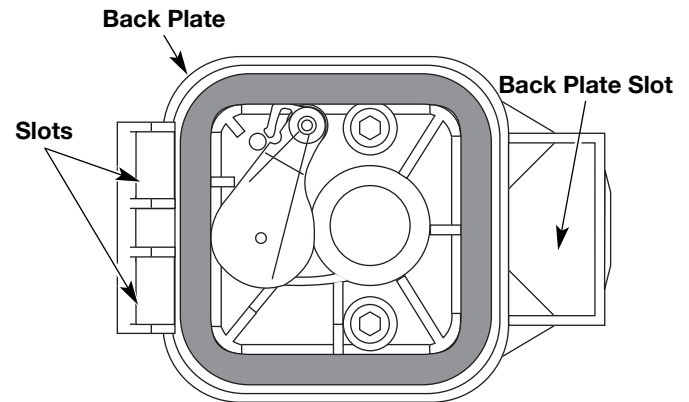

Figure 34
6. Replace the filter. See Figure 34.
7. Reinstall the air filter cover. Position the hooks on the left side of the air filter cover into the slots at the left side of the back plate. See Figure 34.